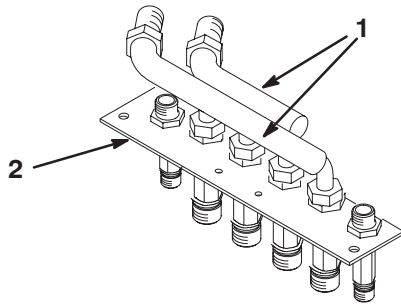

Figure 4
1. Remove the hydraulic tubes from the rear bulkhead assembly (Fig. 4).